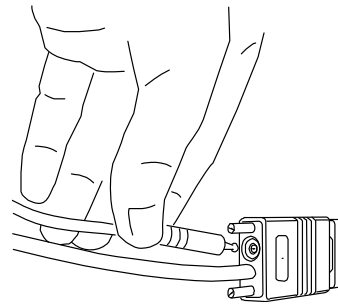

Figure 7 Connect Power Supply
- ❖ Connect the bar code scanner power supply cable (**W**) to the back of the interface cable connector. See Figure 7.